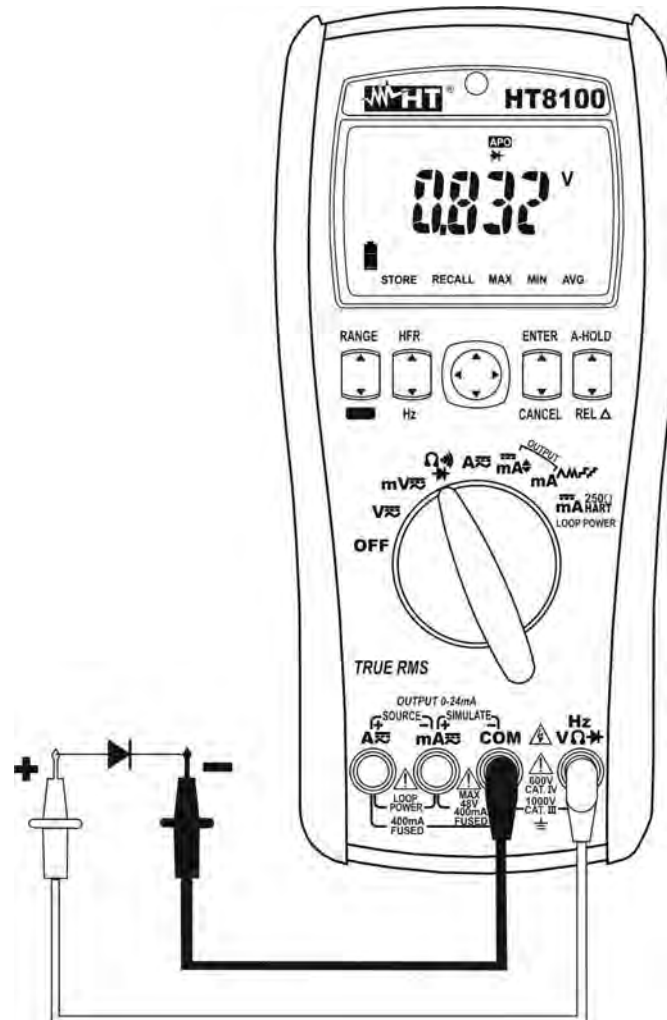

Fig. 7: Use of the instrument for diode test
4. Position the leads at the ends of the diode to be tested, respecting the indicated polarity (see Fig. 7). The value of directly polarized threshold voltage is shown on the display. For a good P-N junction, the instrument must show a value between 0.4 and 0.9V. If threshold value is equal to 0mV, the P-N junction of the diode is short-circuited.
5. If the instrument shows the message "**OL**", the terminals of the diode are reversed with respect to the indication given in Fig. 7 otherwise, the P-N junction of the diode is damaged